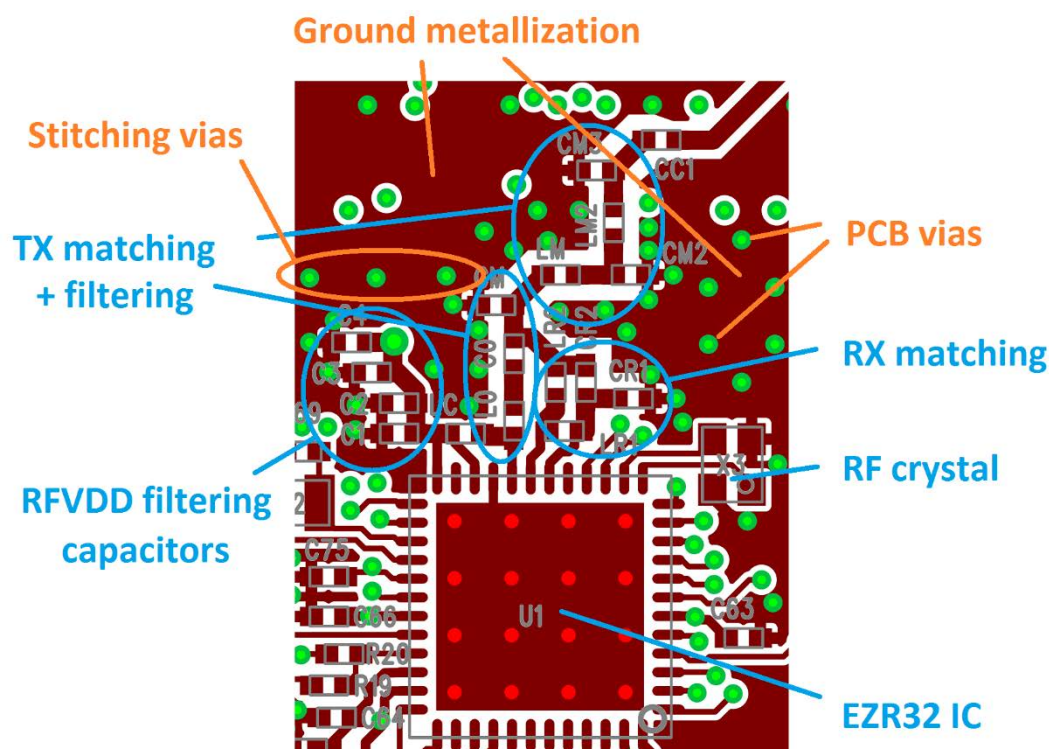

Figure 2.2. Layout of the RF Section for CLE Direct-Tie Type Matching Network for the Si4455/Si446x-Based EZR32HG
- If one compares [Figure 2.2 Layout of the RF Section for CLE Direct-Tie Type Matching Network for the Si4455/Si446x-Based EZR32HG on page 4](#) with the figure below, it can be seen that the choke inductor (LC) placement is different. For the Switched type layout, the choke inductor is placed between L0 and the TX pin. Although this additional pad and trace creates an extra series parasitic inductance for L0, its value (~ 0.3 nH) is commensurable with the component tolerance, and thus its effect on TX performance is negligible.